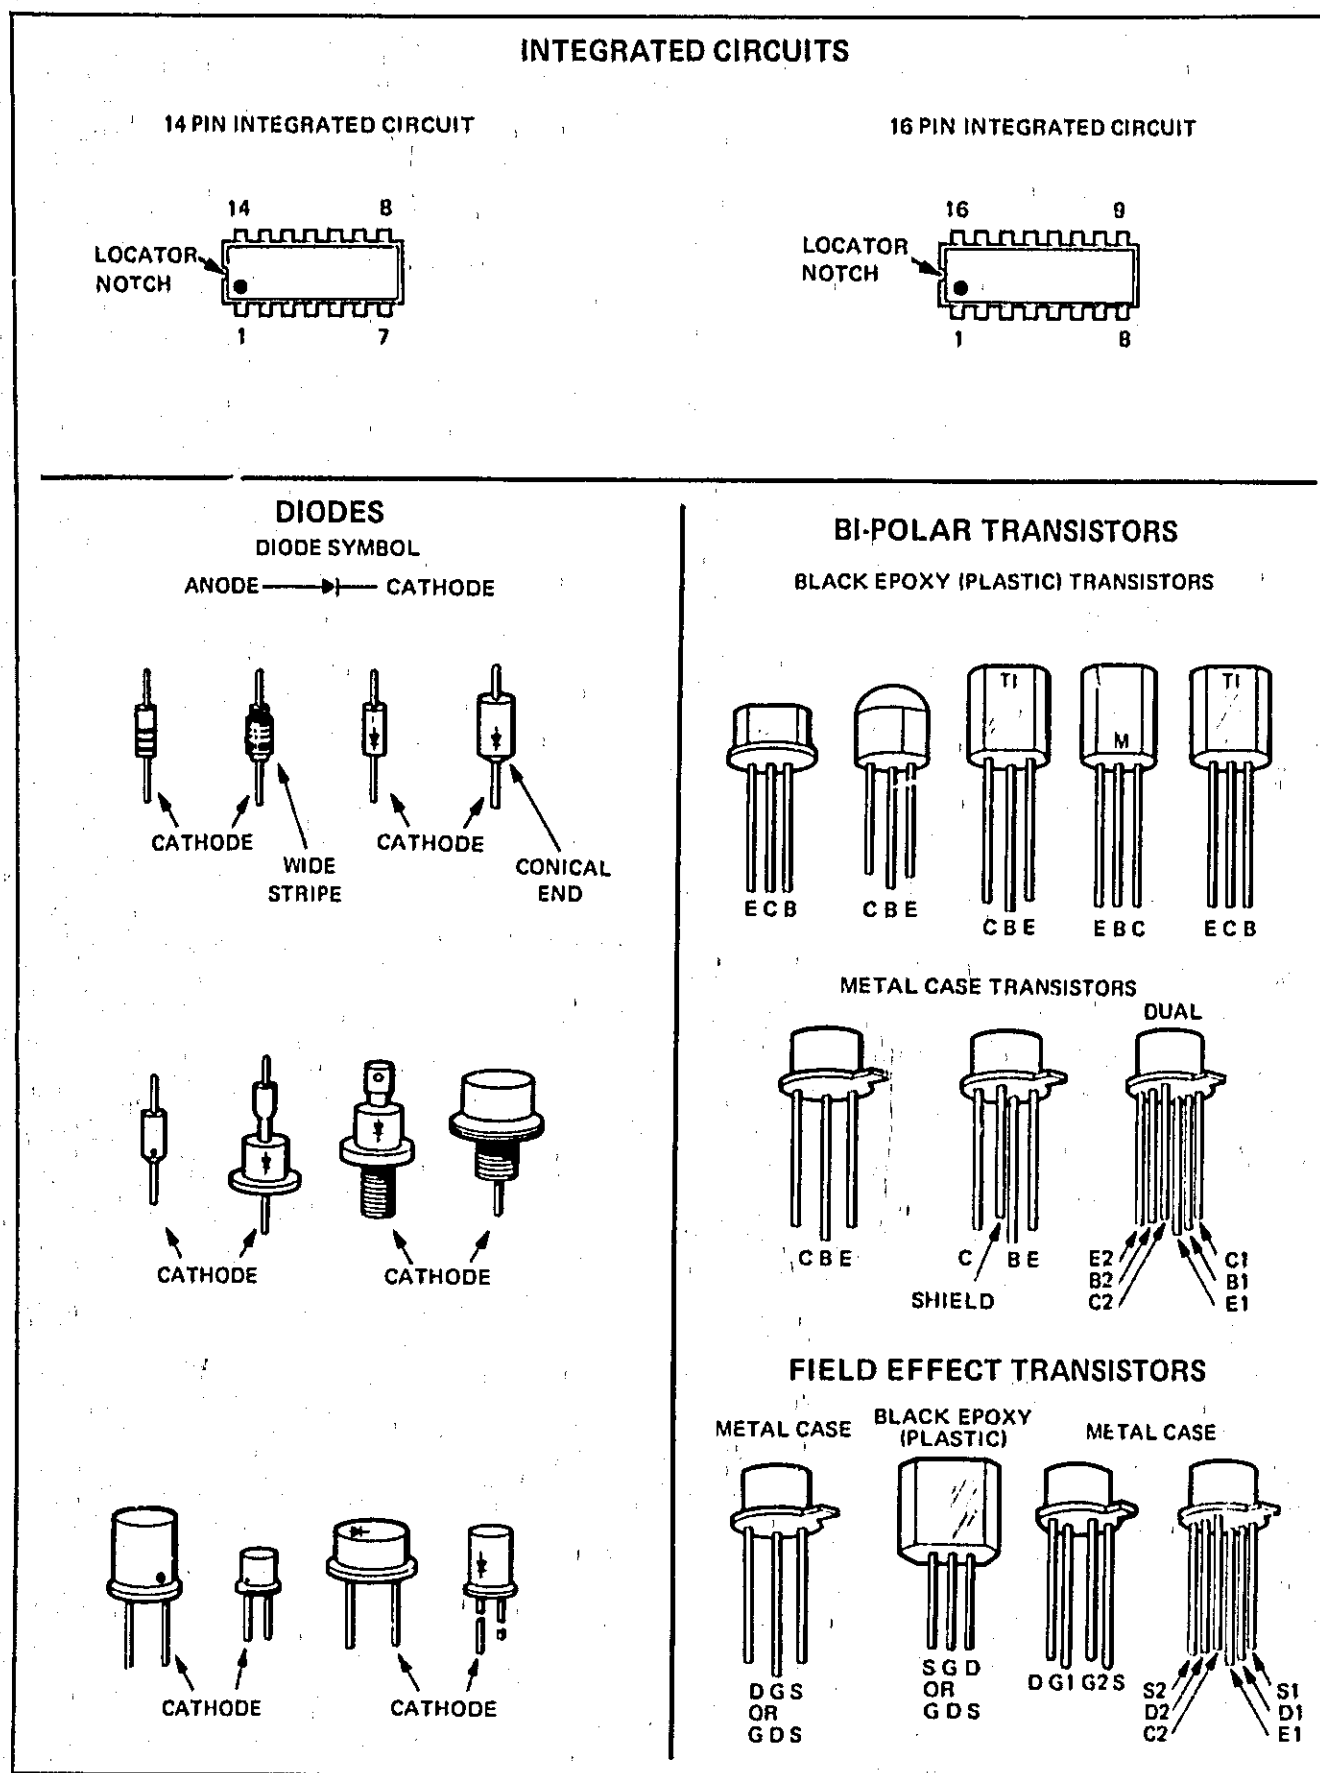

Figure 8-2. Semiconductor Terminal Identification
**8-47. SEMICONDUCTOR REMOVAL AND REPLACEMENT.** Figure 8-2 is included to help identify the leads on the common shapes and sizes of semiconductor devices. When removing a semiconductor, use long-nosed pliers as a heat sink between the device and the soldering iron. When replacing a semiconductor, ensure sufficient lead length to dissipate the soldering heat by using the same length of exposed lead as used for the original part.